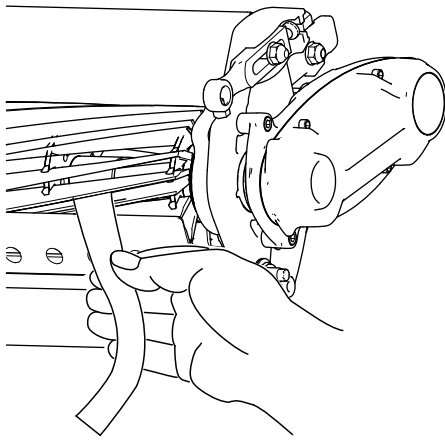

Figure 6
- B. Insert a long strip of cutting performance paper (Toro Part No. 125-5610) between the reel and bedknife, perpendicular to the bedknife (Figure 6), then **slowly** rotate the reel forward; it should cut the paper; if not, repeat steps A and B until it does.
11. Insert a long strip of cutting performance paper (Toro Part No. 125-5610) between the reel and bedknife, perpendicular to the bedknife (Figure 6), then **slowly** rotate the reel forward; it should cut the paper; if not, turn each bedbar adjusting screw clockwise 1 clicks and repeat this step until it cuts the paper.